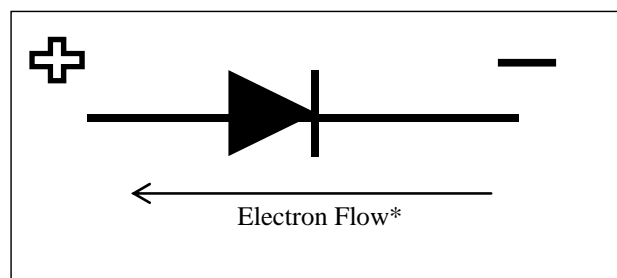

Figure 1
** Note: In Figure 1 the direction of current flow points against the direction of electron flow. It was reported that this symbol's arrowhead was developed by engineers who used conventional flow notation which shows current as a flow of charge from the positive (+) side of the voltage source to the negative (-). It is sufficient to say that if the polarity of the source matches this drawing you are in forward bias.*